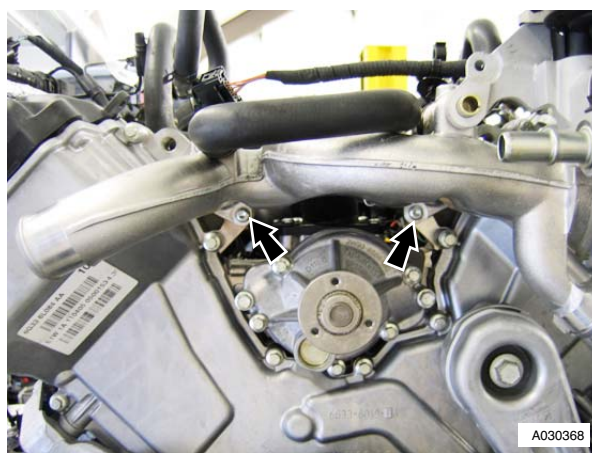

Figure 1
12. Remove the four M6 Torx screws that attach the coolant manifold to the cylinder heads (Refer to Figure 1).